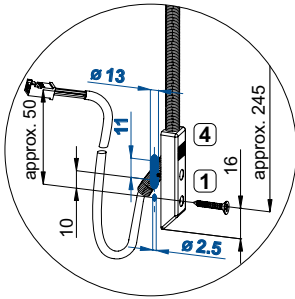

Figure 3.2-2: Detail KÜ-T1-STV without cover plate (dimensions in mm)
Sash part (4) without cover plate (Figure 3.2-2):
- Drill a hole 2 x  $\varnothing 13$  mm resp. oblong hole through the euro groove (approx. 245 mm vertical under the frame part drill hole of  $\varnothing 8$  mm, depends on the profile/hinge rotation point) and for screw (1) pre-drill ( $\varnothing 2,5$  mm)